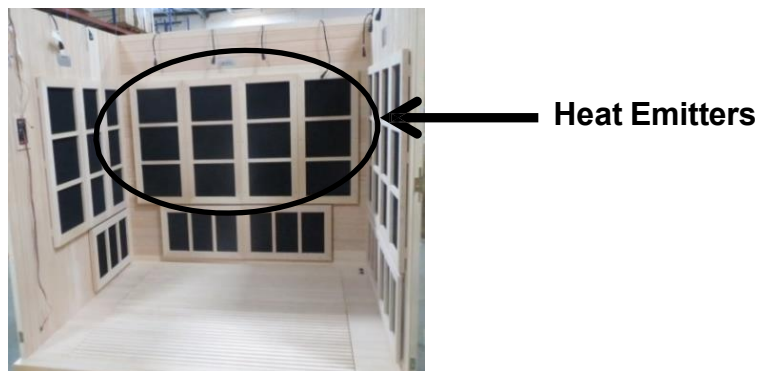
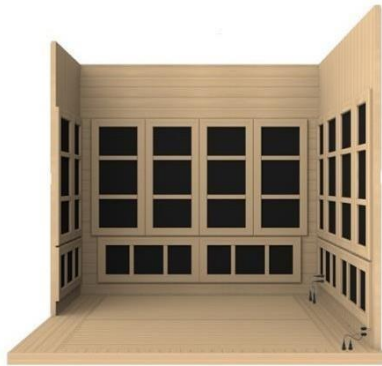

Figure 8
Figure 14
You will find the heat emitters on the inside of the wall panels. (see Figure 8)
- a. Place the first of the two LEFT SIDE PANELS up and onto the FLOOR PANEL. Again, note the trim molding on the FLOOR PANEL that will insert into the bottom of the wall panels. Pay special attention to the external buckle in Figure 8 with reference to the wall panels. Once the first of the two LEFT SIDE PANELS has been placed onto the FLOOR PANEL and the trim molding on the FLOOR PANEL is inserted, use the external buckles to attach the LEFT SIDE PANEL to the REAR WALL PANEL. An adult can now lift the second of the two LEFT SIDE PANELS up and onto the FLOOR PANEL. In addition, the LEFT SIDE PANEL with the guide bracket that has the metal knob sticking outward will need to be lifted up and inserted into the other LEFT SIDE PANEL with the guide bracket that has the hole. Once inserted, the wall panel will need to slide downward until the top of the two wall panels are flush with one another. If the wall panels are tight and not sliding down easily, you can loosen the guide and guide insert screws slightly to allow for less tension and the wall panel will slide down easier. (see Figure 14 and 15)